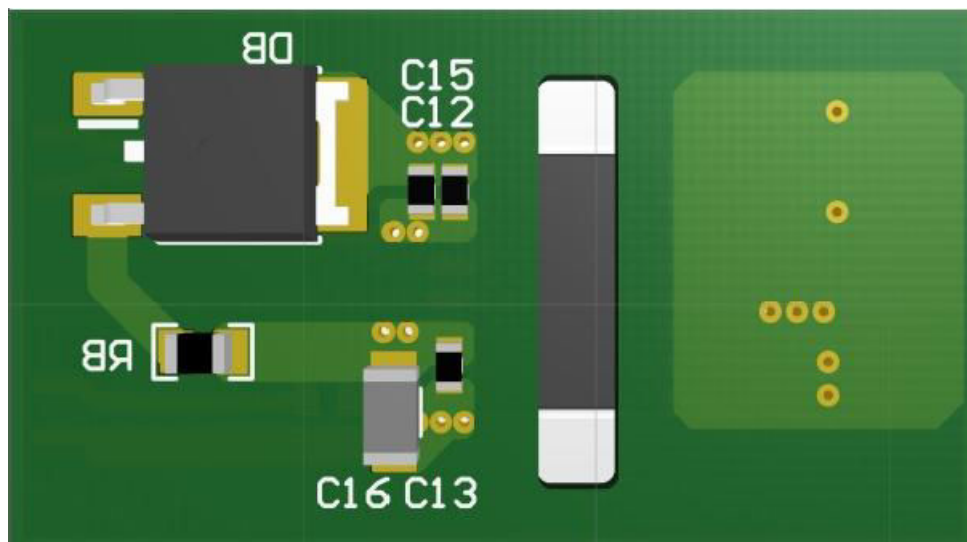

Figure 10-4. 3-D PCB Bottom View Showing Recommended Cutout
PCB traces between the high-side and low-side gate drivers in the output stage are increased to maximize the creepage distance for high-voltage operation, which will also minimize cross-talk between the switching node VSSA (SW), where high dv/dt may exist, and the low-side gate drive due to the parasitic capacitance coupling. Figure 10-4 shows a 3D view of the bottom side recommended layout, showing the board cutout.